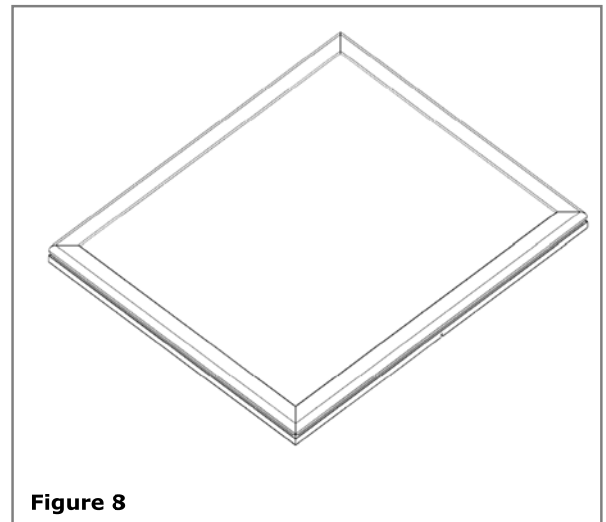

Figure 8
5. Holding the graphic in place, close frame sections one at a time on all four sides. **See Figure 8.**